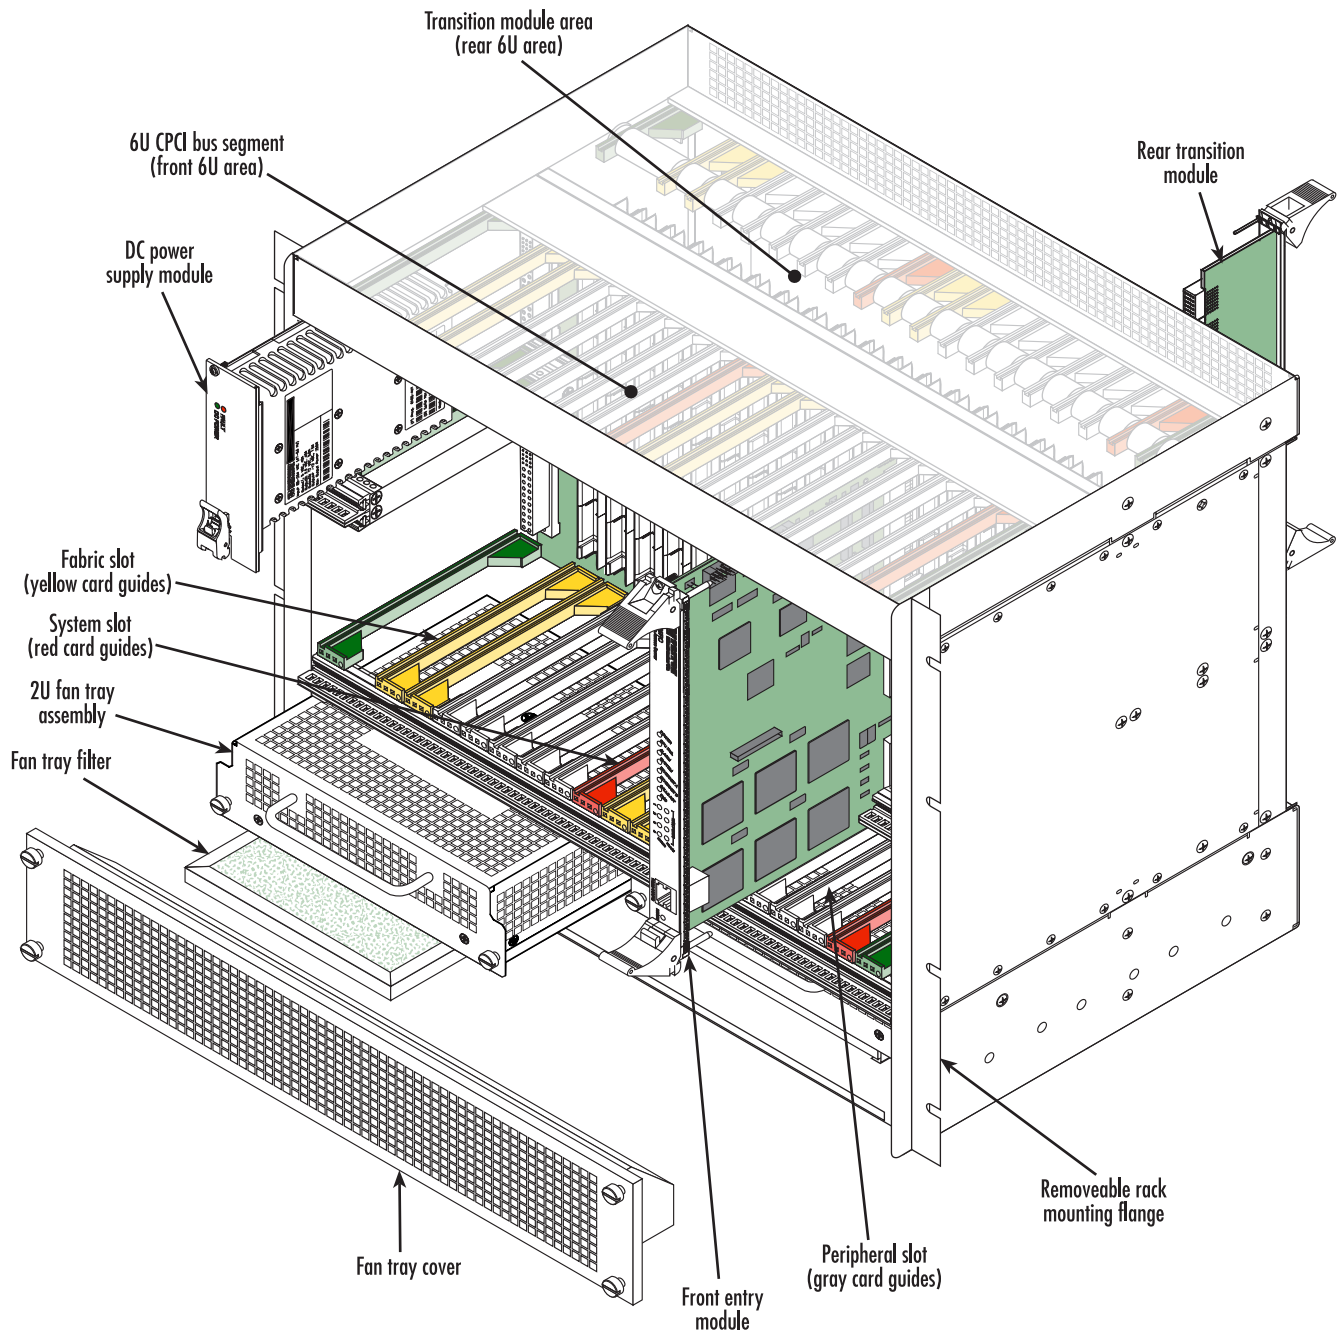

Figure 2. Model 6676 ForeFront Xtreme Chassis
There are 17 6U x 160mm slots at the front of the chassis (see figure 2). Front-entry ForeFront modules, in accordance with PICMG 2.0 CompactPCI specifications, are plugged into these slots.
The front of the chassis also provides four slots suitable for Model 6160 (DC) 3Ux8HP ForeFront power supplies (see figure 2 on page 14). The Model 6160 power supply is described more completely in the Model 6160 and 6161 User Manual.